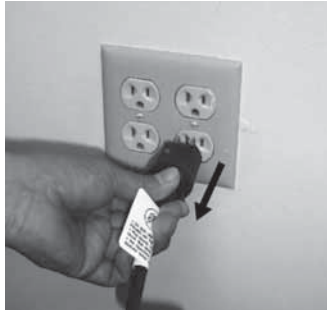

Figure 2: Disconnect AC Cable
1. The AC cable must be disconnected from the wall outlet as shown in Figure 2.